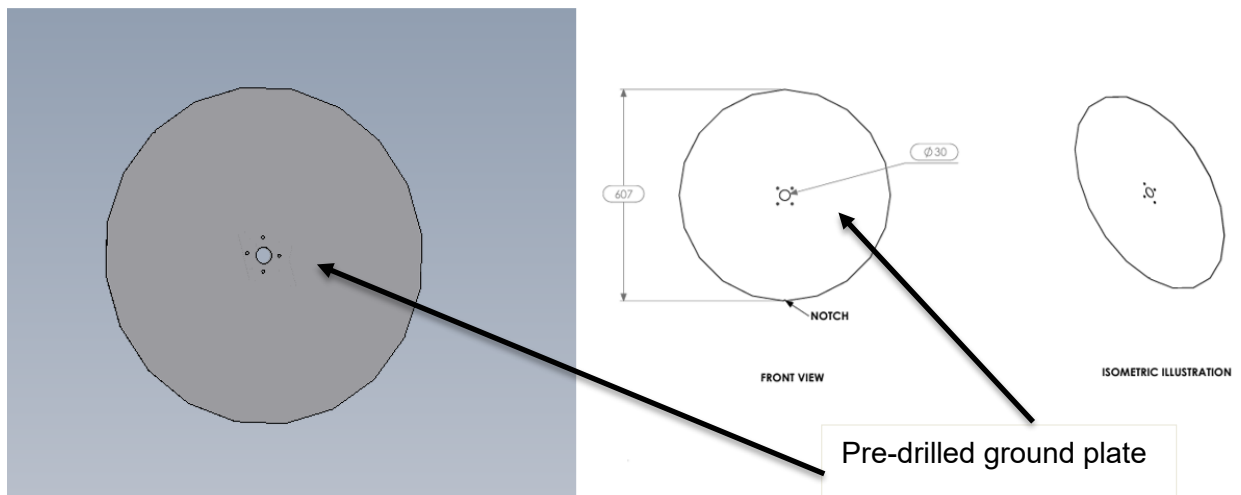

Figure 17: Pre-drilled antenna holes on the VHF ground plate.
- Step 3: Use the VHF ground plate as a template to drill the antenna mounting holes as shown in Figure 17. Place the aluminium grounding plate (pre-drilled with antenna holes) at the marked 585 mm position in the middle.